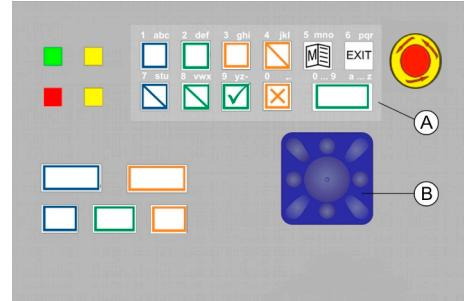

Fig. 55: Function keys and navigator
- ▷ Enter your login data by using the function keys ④ and the navigator ⑧ (see Fig. 55).